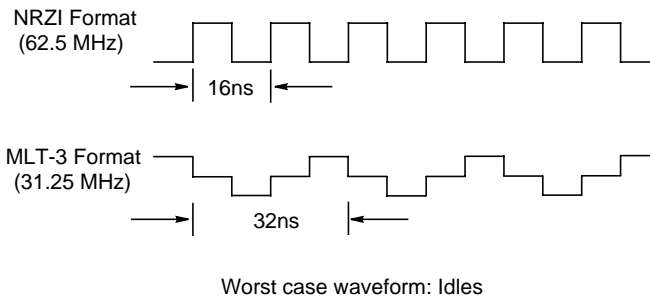

Figure B-1. MLT-3 Encoding
- **MLT-3 Encode/Decode** is a method of converting the scrambled NRZI (two-level signals) data into three-level signals. MLT-3 has the effect of reducing the fundamental frequency of NRZI to one-half of its unconverted value. With MLT-3 coding, 90 percent of the spectral energy lies below 40 MHz. See Figure B-1.